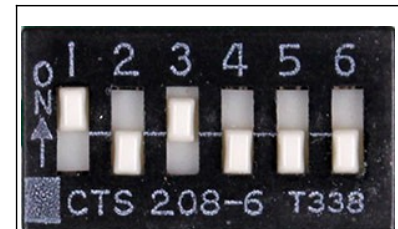

Fig. 53: Speed switch set for 6:1.
- ☐ Use a small screwdriver to slide the switches on S1 to select a 6:1 speed ratio, as shown in Fig. 53 (#1 and #3 **on**, #2, #4, #5, #6 **off**). Refer to **Table 5** and **Table 6** for other switch settings.